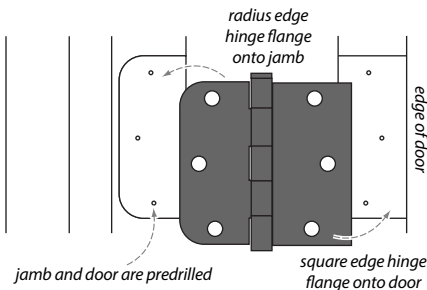

Figure 2
- 2) With door standing, apply screws in each square side of hinge with pin facing towards you (figure 2).